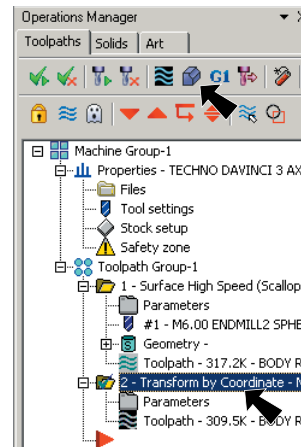

Fig. 25
Step 1. In the Toolpaths Manager, click the **mirrored Transform by Coordinate** toolpath, **Fig. 25**.
Step 2. Click **Verify**  in the Toolpaths Manager, **Fig. 25**.